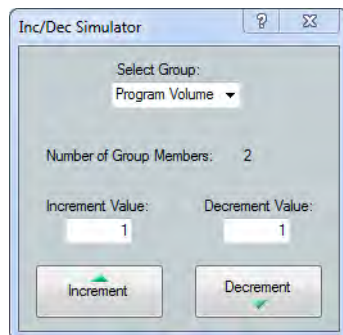

Figure 54. Increment/Decrement Simulator Dialog Box
- Click **Tools > Increment/Decrement Simulator** in the Group Controls dialog box to open a dialog box (see figure 54) that lets you easily experiment with fine adjustments.